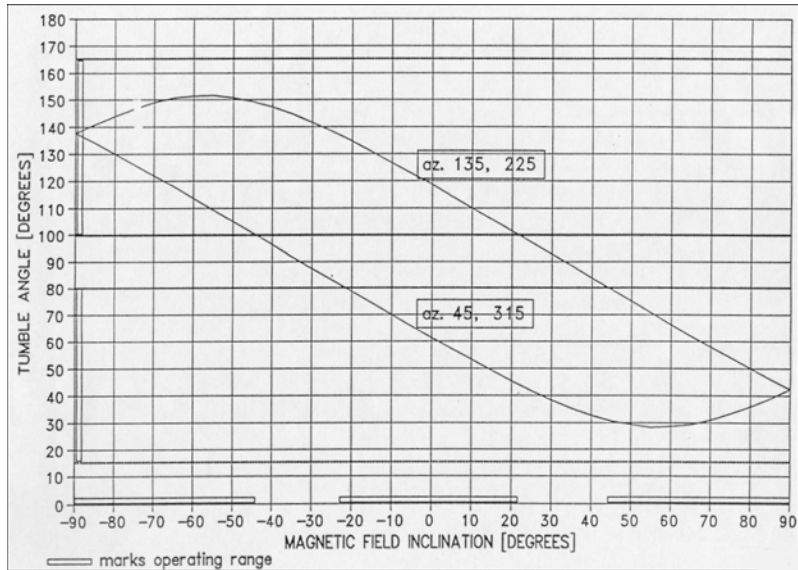
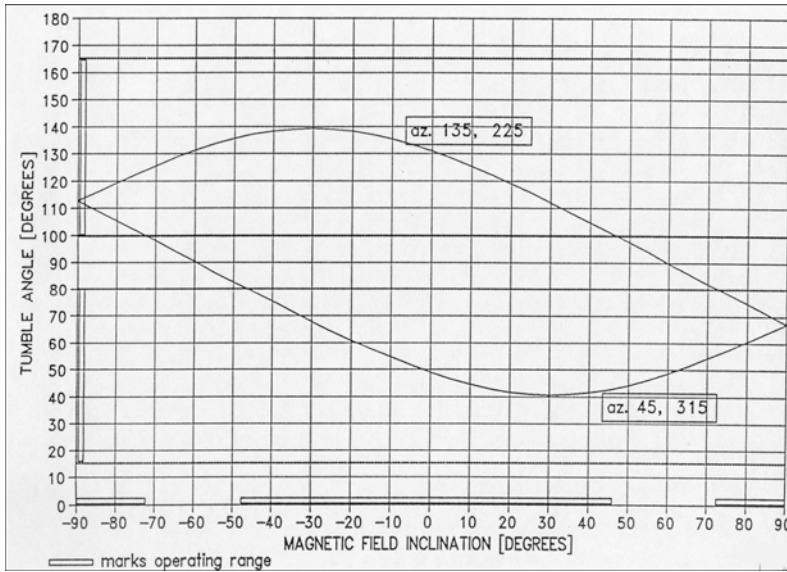

Figure 11 - Plot of tumble angle versus magnetic field inclination. Sensor inclination is 47.5° . Sensor azimuths are 45, 135, 225 and 315 degrees.
Figure 14 - Plot of tumble angle versus magnetic field inclination. Sensor inclination is 22.5°. Sensor azimuths are 45, 135, 225 and 315 degrees.
This orientation could be used in surveying polar regions. If the azimuth of 90° and 270° are used for flying normal survey lines, the tumble angle is same for both up-the-line and down-the-line flying, and it is well inside the active zone. The sensor orientation shown in Figure 11 offers the advantage of use for surveys in either polar or equatorial regions.
The orientation in Figure 14 offers, in comparison with the orientation in Figure 11, an extension of surveying into regions well away from the magnetic equator at the expense of reduction in the polar regions.
1. The orientation in Figure 11, with the sensor inclination 45° and azimuths 45, 135, 225, 315 degrees, for polar and equatorial regions, and